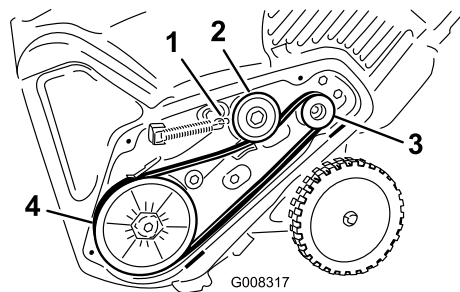

Figure 33
5. Install the new drive belt, routing it as shown in Figure 33.
8. Install the brake spring onto the idler arm (Figure 33).